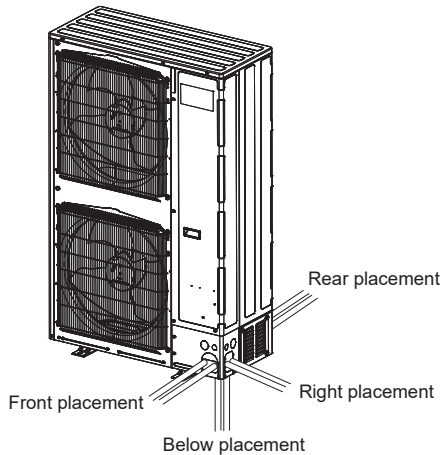

Fig. 4-10
- ① Perform refrigerant piping connections for the indoor/outdoor unit when the outdoor unit's stop valve is completely closed.
- ② Vacuum-purge air from the indoor unit and the connection piping.
- ③ Attach the front cover and back cover to match each of the directions the piping passes through. (Fig. 4-10)
- When routing piping using a piping cover, cut out the knockout in the piping cover (B or D) following the groove, and wrap the pipes. (Fig. 4-10)